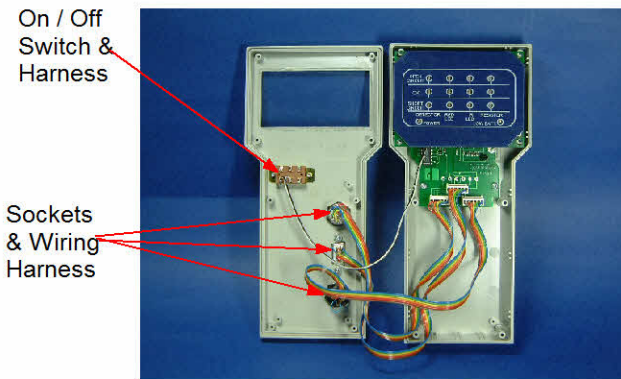

Fig 1.1
2. Remove casings screws x 8 and ease off the upper case half (Fig 1.1)
5. Unscrew the retaining fasteners on the Datascope, Nellcor and Ohmeda socket and remove the wiring harnesses from the upper case half. The pins may need to be removed from the plug housings on the Datascope & Ohmeda wiring harnesses in order to get the retaining nut off (Fig 1.1).